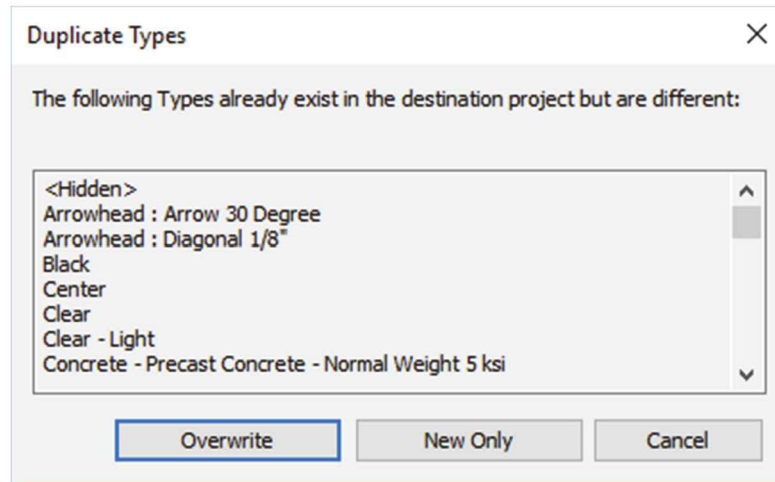

FIGURE 8-2.2 Transfer project settings; duplicate types warning
10. Scroll down to see all the “duplicate types” so you have an idea what overlap there is; click **Overwrite** (see Figure 8-2.2).